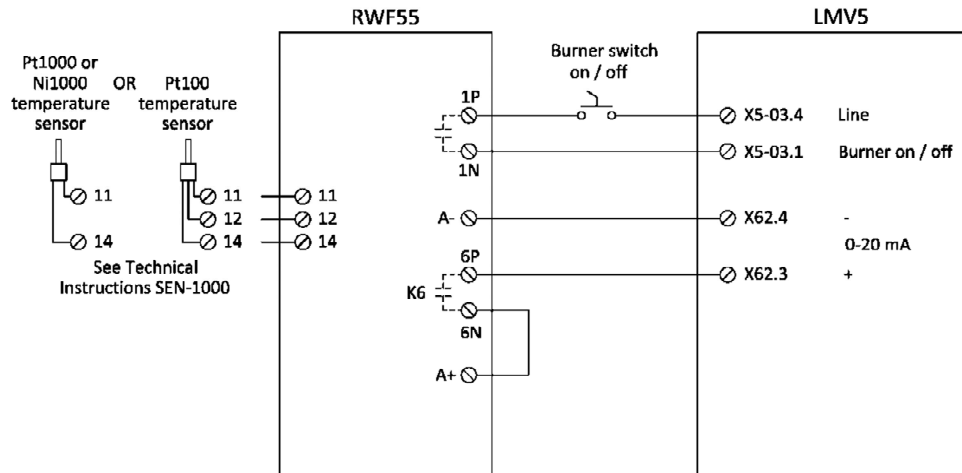

Figure 5: Low Fire Hold via Analog Output on a Hot Water Boiler
3. Wire the LMV5 and RWF55 as shown in Figure 5: